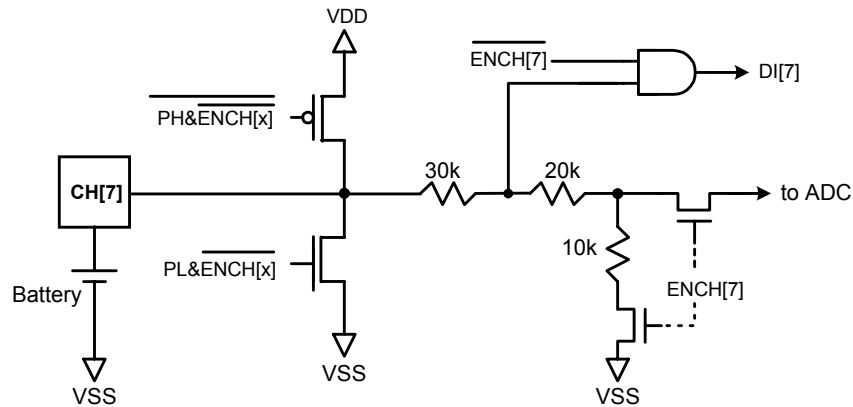

Figure-12 The circuit of the Input pad of Channel 7
- (1) While read ADC command is sent and channel 7 is selected, ADC can be used to monitor the battery voltage.
- (2) The circuit of battery voltage monitoring is shown in Figure-12 (Channel7 only)
- (3) The battery voltage is six times ADC measuring voltage. Thus, the measured result equals to $1/6 \times \text{battery voltage}$.
- (4) While channel 7 is set to the analog input mode, an input resistor ($60k\Omega$) exists from CH[7] to VSS. To save unnecessary power consumption, CH[7] should be switch to digital input type when CH[7] is not measured.